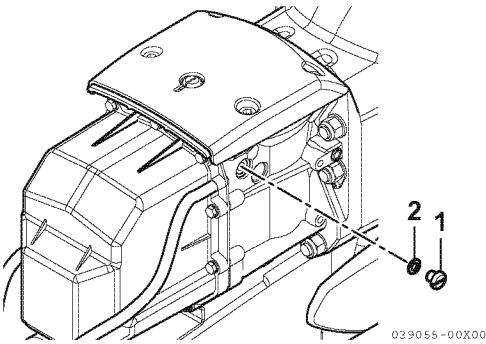

Figure 11
7. Remove the oil vent plug (1, **Figure 11**) and gasket (2, **Figure 11**). Allow the oil to drain completely.